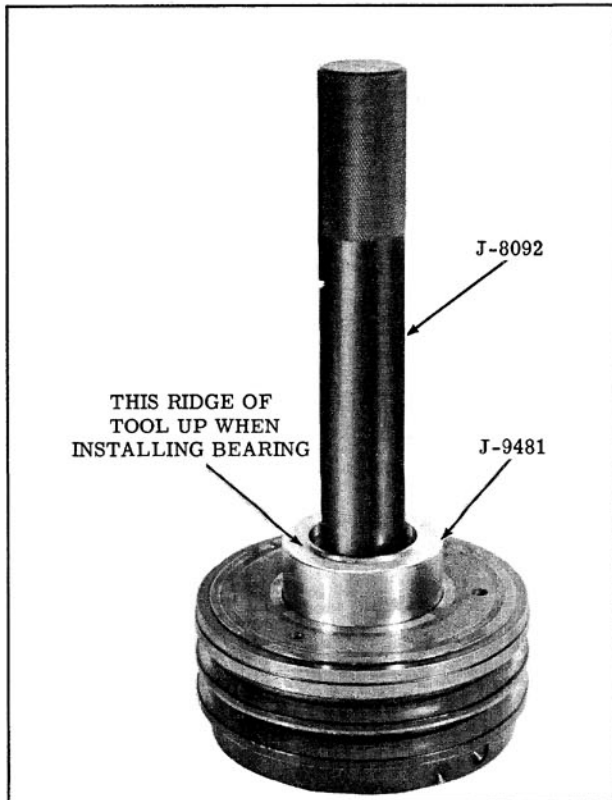

Fig. 14-83 Installing Pulley and Drive Plate Bearing
c. Install new bearing as shown in Fig. 14-83 then install retaining ring.